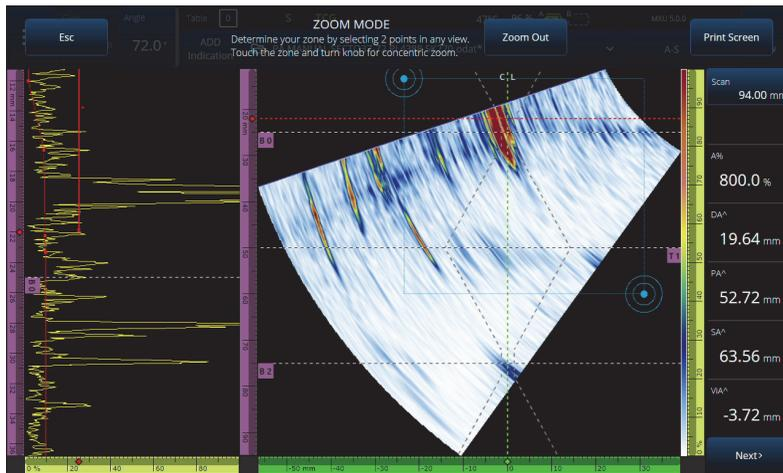

Figure 2-10 Zoom example
1. Press the Zoom key () to turn on (or off) zoom mode (Figure 2-10 on page 30).
- ◆ Press the Zoom key (⌘) to turn on zoom mode (Figure 2-10 on page 30), and then tap **Print Screen** on the display.